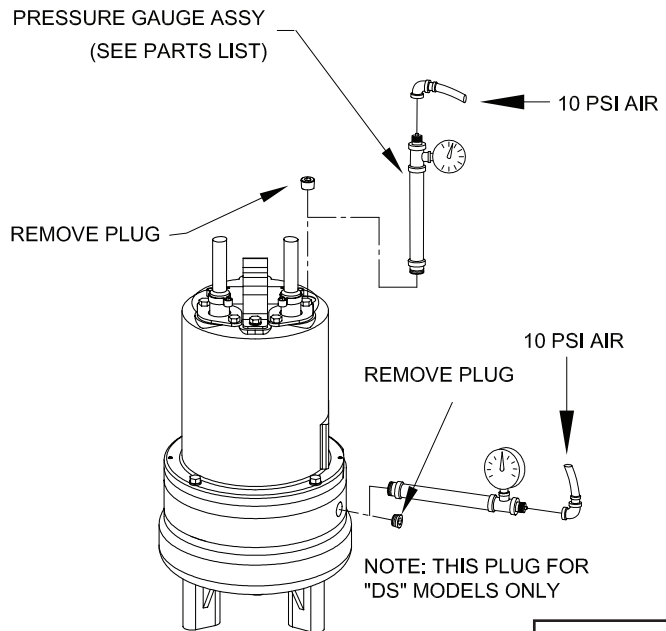

FIGURE 2
Pumps that have had the oil drained from the Motor Housing - Apply pipe sealant to pressure gauge assembly and tighten into pipe plug hole (See Figure 2). Pressurize motor housing to 10 P.S.I. Use soap solution around the sealed areas and inspect joints for "air bubbles". If, after five minutes, the pressure is still holding constant, and no "bubbles" are observed, slowly bleed the pressure and remove the gauge assembly. Replace oil as described in section F-1.4. If the pressure does not hold, then the leak must be located and repaired.
Pumps that have NOT had the oil drained from the Motor Housing - The pressure test may be done with the oil at its normal level. Remove pipe plug (20) from motor housing (5). Apply pipe sealant to pressure gauge assembly and tighten into hole (see Figure 2). Pressurize motor housing to 10 P.S.I. Use soap solution around the sealed areas above the oil level and inspect joints for "air bubbles". For sealed areas below the oil level, leaks will seep oil.
Motor Housing - Set unit upright and refill with new cooling oil as per Table 1 (see parts list for amount). Fill to just above motor as an air space must remain in the top of the motor housing to compensate for oil expansion (see Figure 2, 11 or 12). Apply pipe thread compound to threads of pipe plug (20) then assemble to motor housing (5).